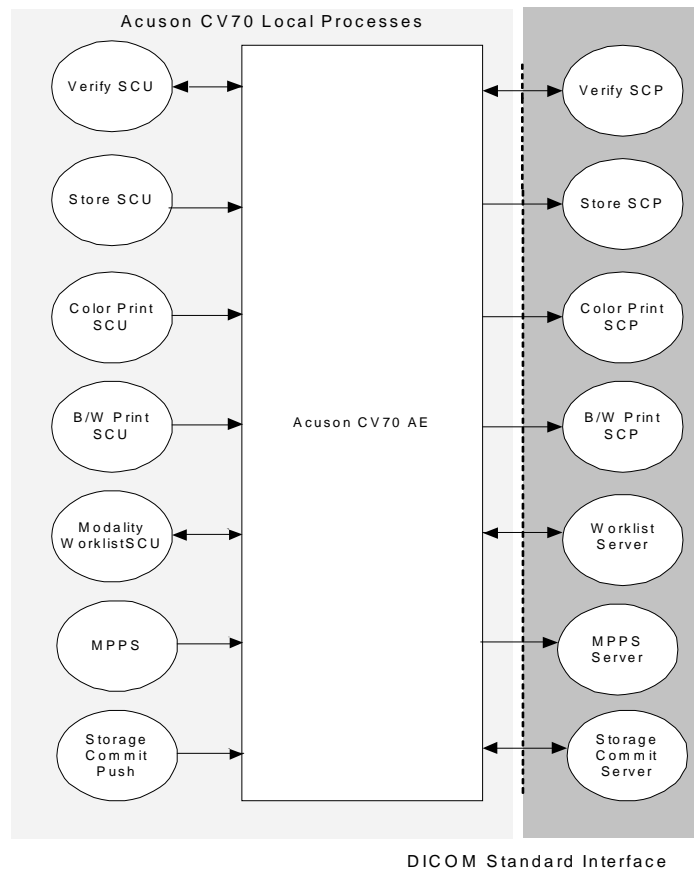

Figure 1 Implementation Model.
Figure 1 illustrates the Acuson CV70 system's Application Entity (AE), which is shown in the box. Relationships between user invoked activities (in the circles at the left of the AE) and the associated real-world activities provided by DICOM service providers (in the circles on the right side of the diagram) are shown.